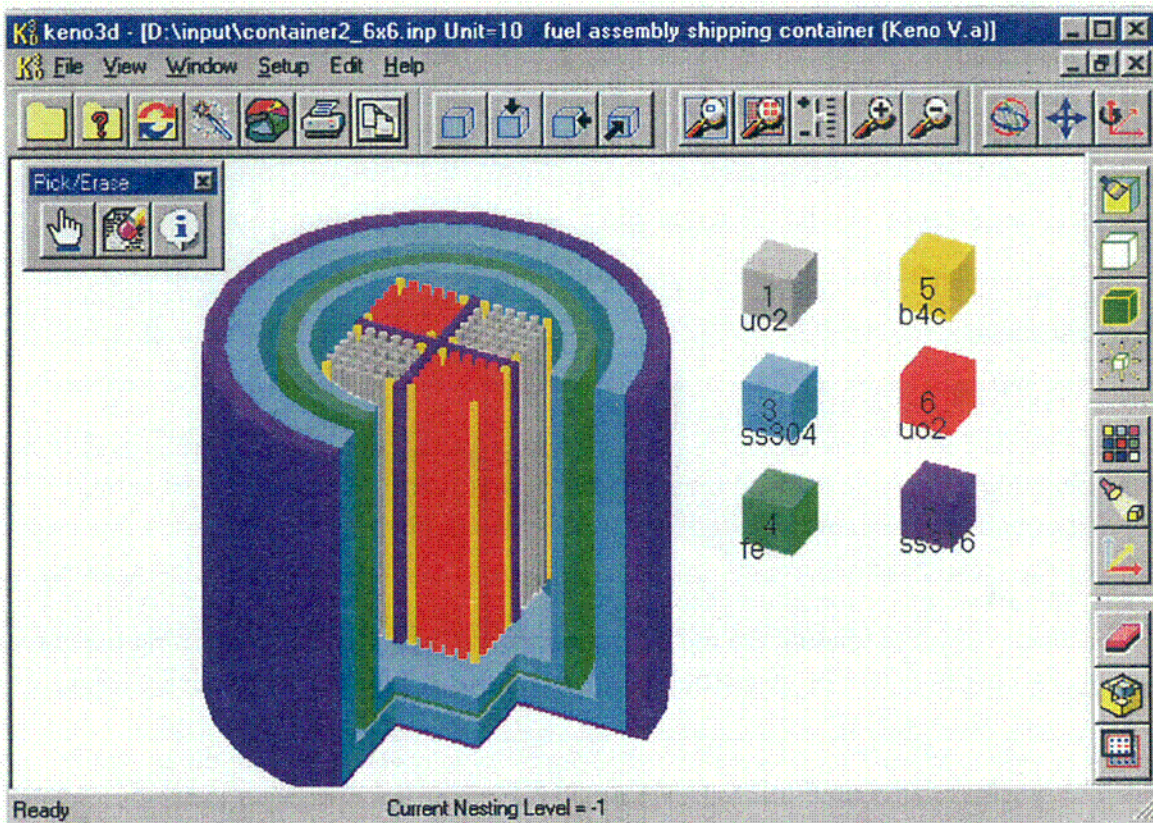

Figure 1 KENO3D sample LWR shipping container
- A variety of **cutting tools** allows the user to remove sections from the model to view the internal structure. A "remove section" option allows the user to remove a block or pie shaped section from the model. Another cut-tool is an interactive block eraser. The user drags the eraser to the desired location by holding down the left mouse button, and then double clicks the left mouse button to remove the part of the model under the eraser. A sample KENO3D model visualization using the cutting tools is shown in Figure 1.